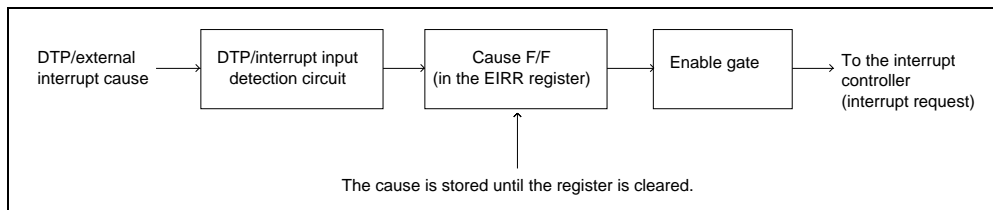
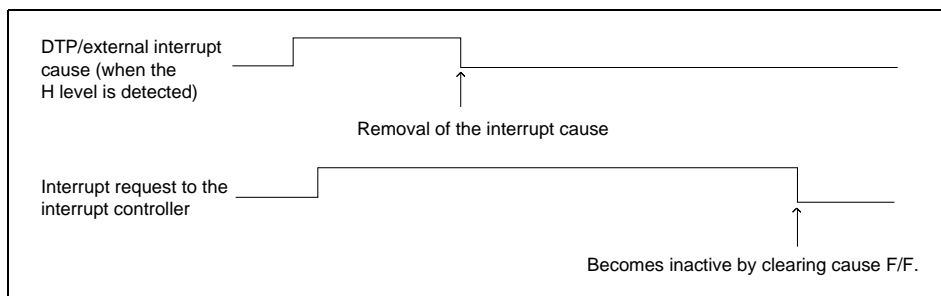

Figure 14.6-1 Clearing the cause retention circuit when a level is specified
Figure 14.6-2 DTP/external interrupt cause and interrupt request when the output of interrupt requests is enabled
- If the register is set for level detection, and the level to be detected as an interrupt cause is input, cause F/F in the DTP/interrupt cause register (EIRR) is set to "1" to store the cause, as shown in Figure 14.6-1. Even if the cause is removed, the request to the interrupt controller remains active provided the output of interrupt requests is enabled. Thus, to cancel the request to the interrupt controller, clear the external interrupt request flag bit and cause F/F, as shown in Figure 14.6-2.